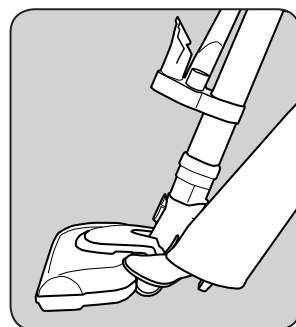

Fig. 2
1. Turn on the canister and lower the wand by stepping on the top of the power nozzle and pulling the wand toward you (Fig. 2).